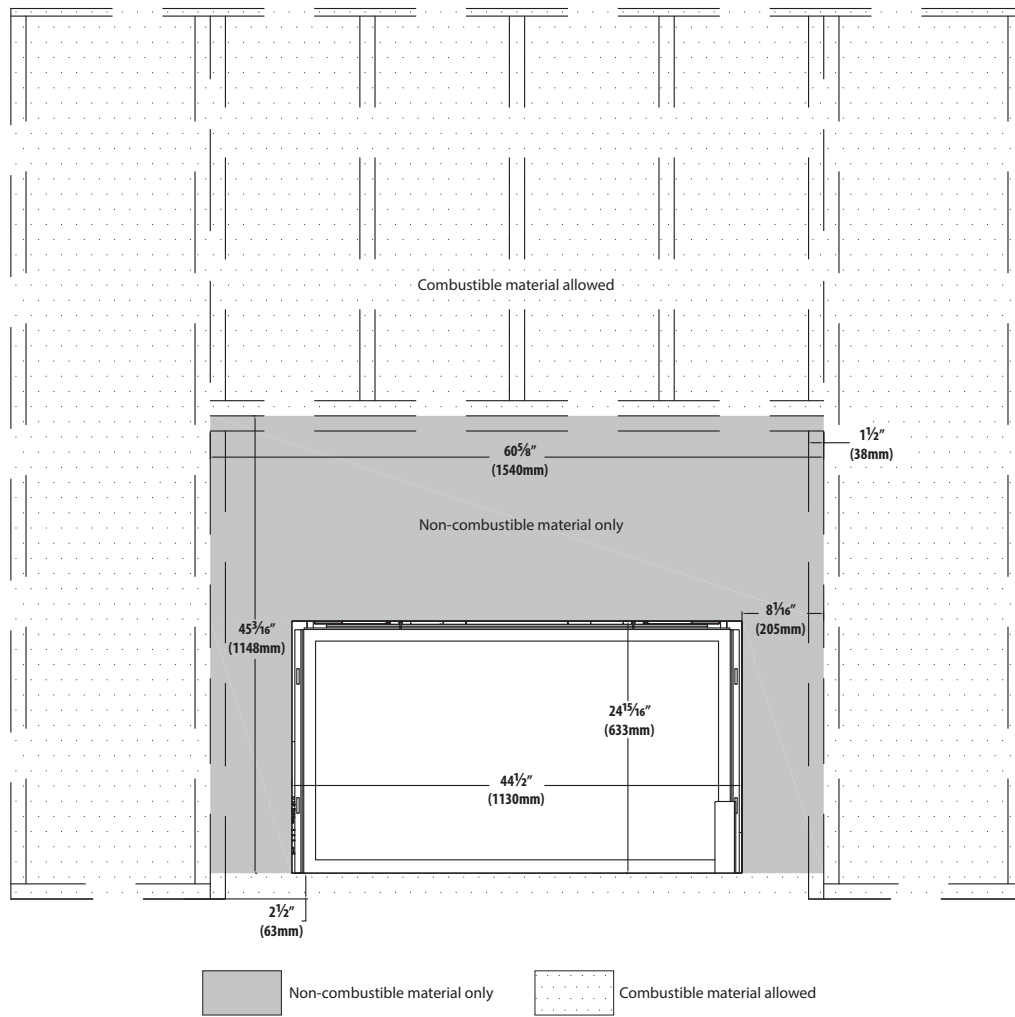

Figure 3.3, BHM-44 Minimum Non-combustible Finishing Dimensions
1" (25mm) combustible material goes on top of any required non-combustible material required on the fireplace as shown in Figures 3.1 and 3.2 on page 10 for CLW-50 and Figure 3.3 on page 11 for BHM-44.
- Figure 3.6 shows installation of combustible wall finish up to 1" thick. This combustible material goes on any required non-combustible materials as shown in Figure 3.3 on page 15.